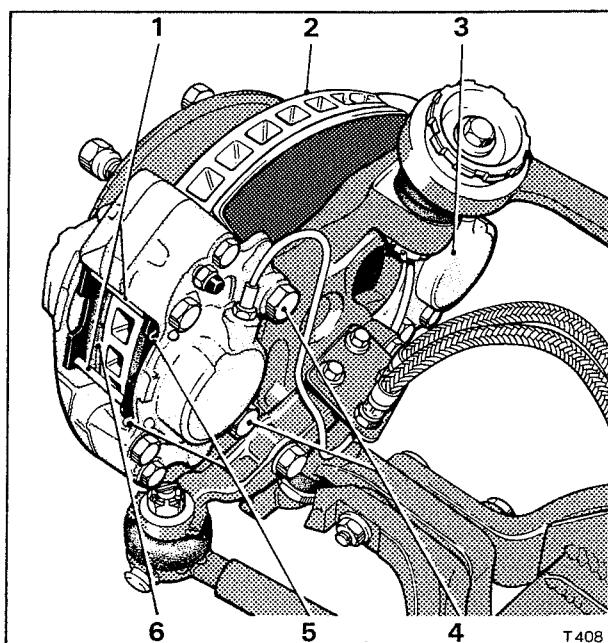

Fig. G35 Front wheel brake calipers
5. Remove the spring clips from the two brake pad retaining pins (see Fig. G35) and withdraw the pins.
**Front brake caliper - To remove (refer to Fig. G35)**